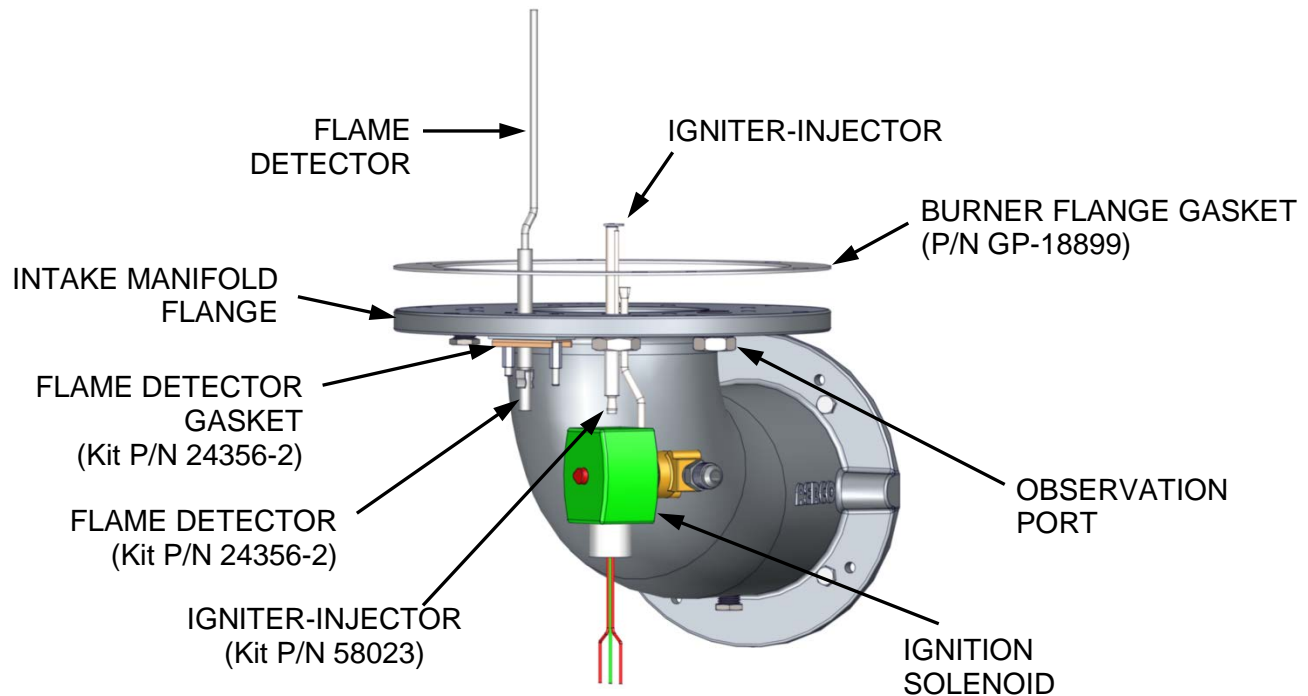

Figure 6-1. Intake Manifold with Igniter-Injector & Flame Detector
The igniter-injector is located on the flange of the intake manifold, at the bottom of the unit's heat exchanger. The igniter-injector (Kit P/N **58023**) is the same for Natural Gas and Propane units. Figure 6-1 shows the intake manifold (removed from the heater) showing the location of the igniter-injector, flame detector and gasket (Kit P/N **24356-2**) and related components.
4. Refer to Figure 6-1. Disconnect the compression nut securing the gas injector tube of the igniter-injector to the elbow of the ignition assembly. Disconnect the ignition assembly from the igniter-injector.
Flame detector (Kit P/N **24356-2**) is used on ALL Innovation Water Heater models. The flame detector is also located on the flange of the intake manifold as shown in Figures 6-1 and 6-2. The flame detector may be hot. Allow the unit to cool sufficiently before removing the flame detector.
4. Remove the two (2) hex standoffs securing the flame detector to the intake manifold (Figures 6-1 and 6-2). The flame detector is secured to the burner intake manifold with one (1) #10-32 and one (1) #8-32 hex standoff.
6. Remove the two (2) hex standoffs securing the flame detector to the intake manifold (see Figures 6-1 and 6-2).
8. Disconnect the cable from the igniter-injector, loosen the compression nut and elbow from the gas injector tube (Figure 6-1), and remove the entire ignition assembly (nut/elbow, solenoid valve, hose nipple, and gas flex hose) from the manifold flange.